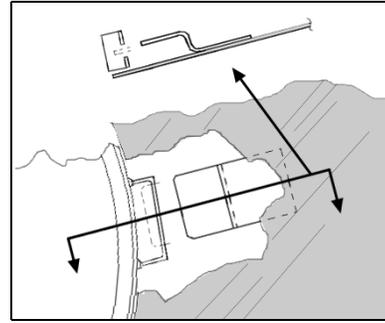

Figure 4-3—Detail of Clip on the Inside of the Electronics Cover (cut-away and cross-section)
5. Slide the cover to the right to unhook a clip on the left side, then lift off. *For a detail of the cover clip see Figure 4-3.*